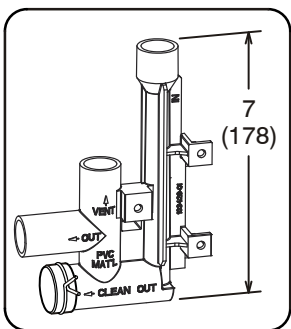

FIGURE 49
- 3 - Install the cap over the clean out opening at the base of the trap. Secure with clamp. See figure 49.
- 4 - Install drain trap using appropriate PVC fittings, glue all joints. Glue the provided drain trap as shown in figure 49. Route the condensate line to an open drain.